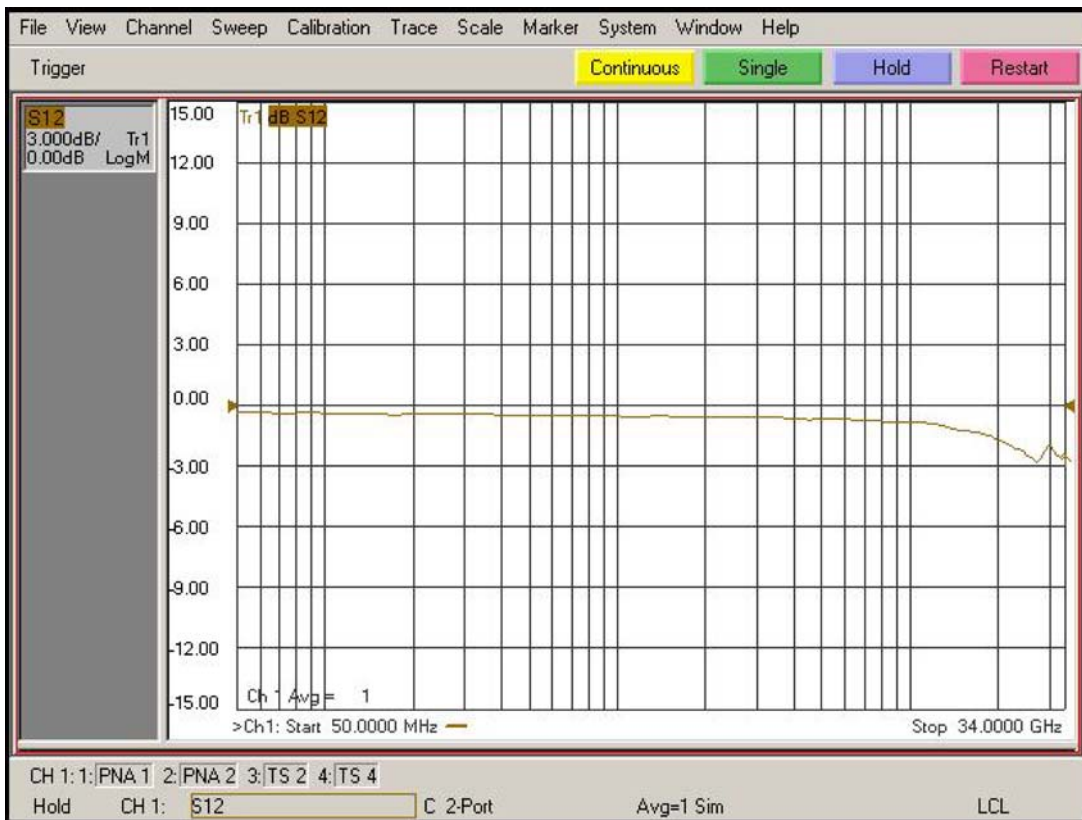

Figure 82 De-Embedded V_{in} Trace
- 8 Trigger the VNA to perform a single sweep. Press “Trigger” under Channel Setup, and then the green soft-key for “Single”. Display should look like Figure 82 on page 126. If it looks noticeably different, the probe tip wires may not be making contact under the pincher.